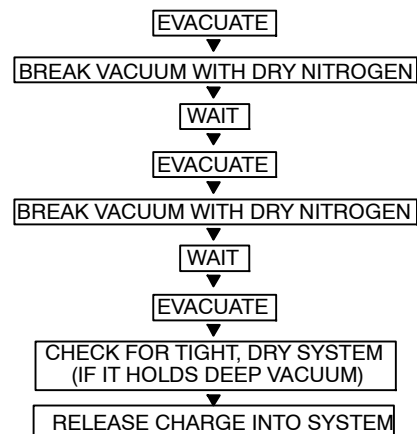

Fig. 18 – Triple Evacuation Method
The triple evacuation method should only be used when vacuum pump is only capable of pumping down to 28 in. of mercury vacuum and system does not contain any liquid water. Refer to Fig. 18 and proceed as follows:
5. Repeat this procedure as indicated in Fig. 18. System will then be free of any contaminants and water vapor.